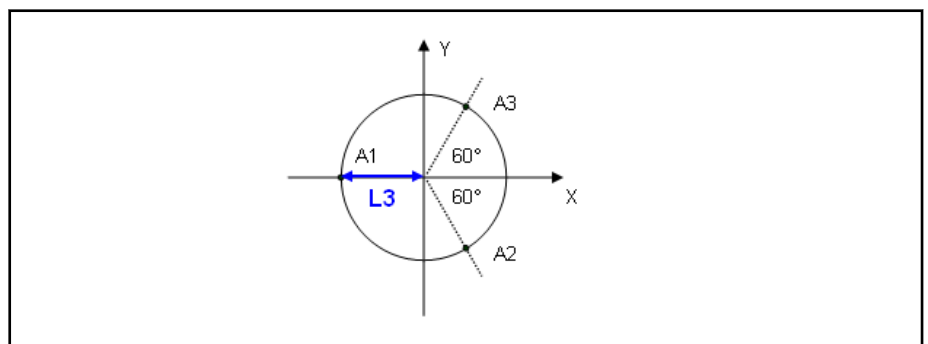

Fig.4-20: Radius L3 of the joint base and the coordinate system (X-Y view)
- L_3 is the radius of the perimeter formed by the three motor spindles (or gears), measured at the rotary center points of the arms (see fig. 4-20 "Radius L_3 of the joint base and the coordinate system (X-Y view)" on page 91)
- The Cartesian zero point for the Delta robot is at the center point of the perimeter defined by the three motor spindles (see also fig. 4-20 "Radius L_3 of the joint base and the coordinate system (X-Y view)" on page 91).